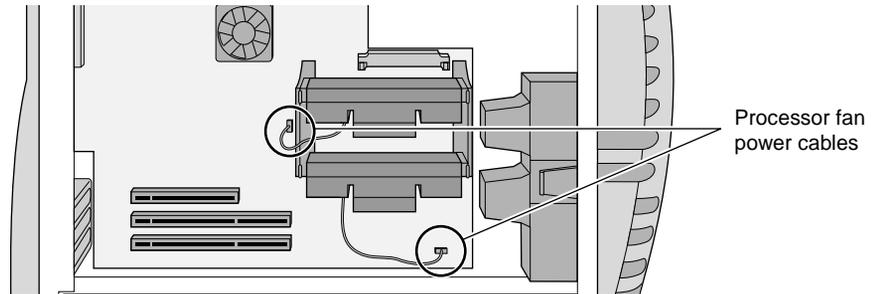

Figure 6-5 Attaching the Processor Fan Power Supply Cable to the Board
9. If the processor has a fan attached to it, attach the fan power supply cable to the appropriate connector on the board, as shown in Figure 6-5.